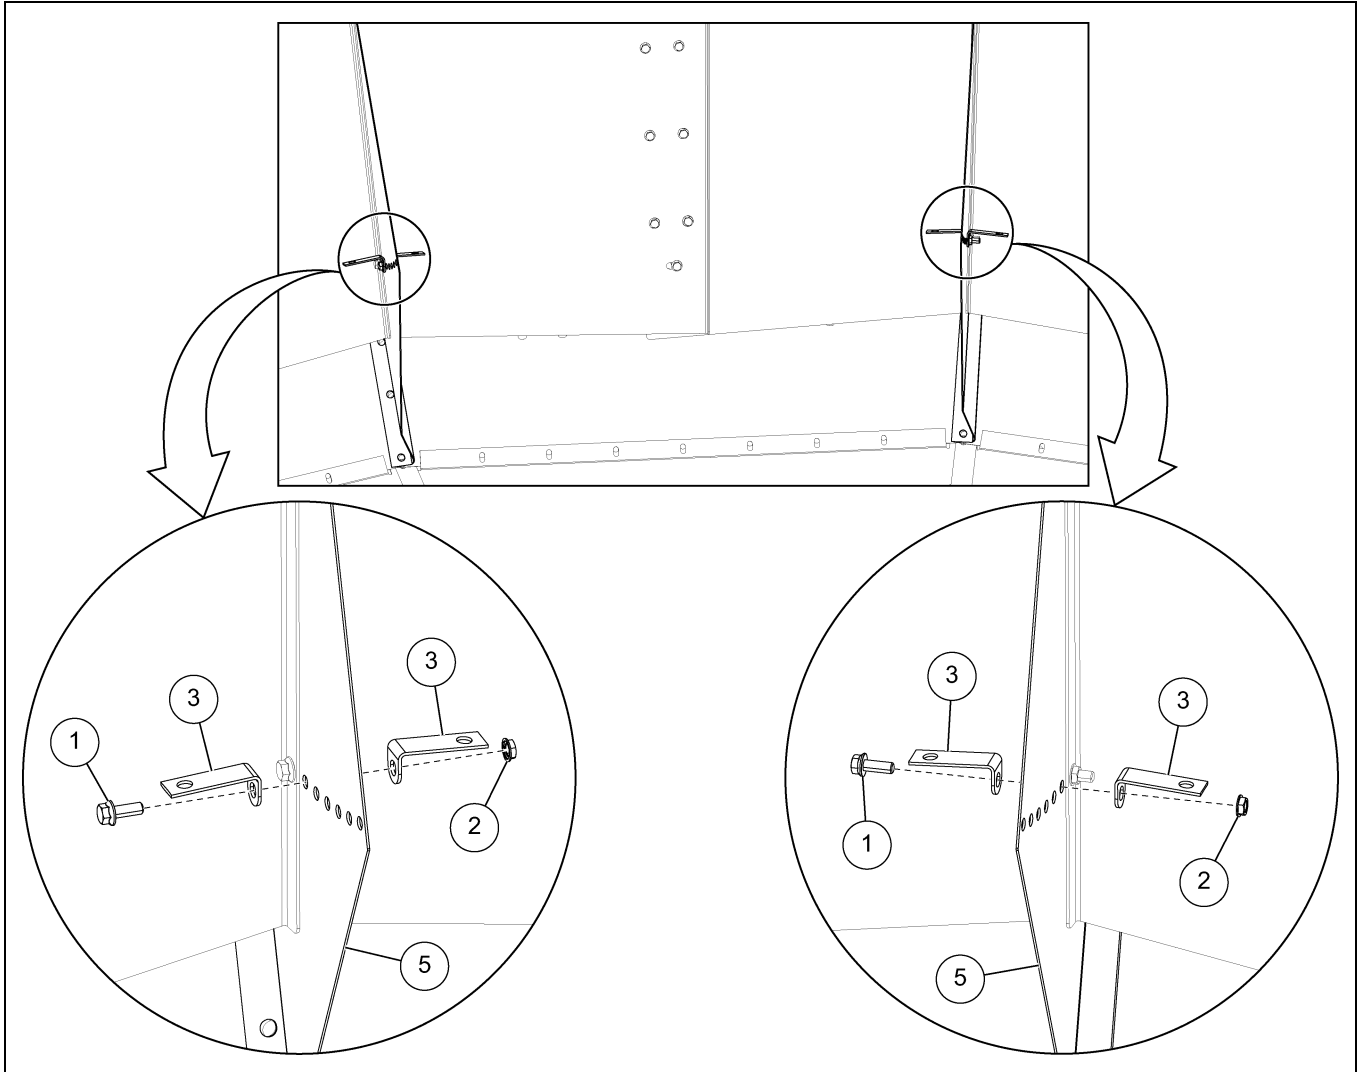

Figure 1 Installing the Brake Brace Clips to the Hopper Channel
2. Install a brake brace clip (3) to each side of the hopper channels (5) using 3/8" x 1" flange bolts (1) and 3/8" flange nuts (2). (See Figure 1.)